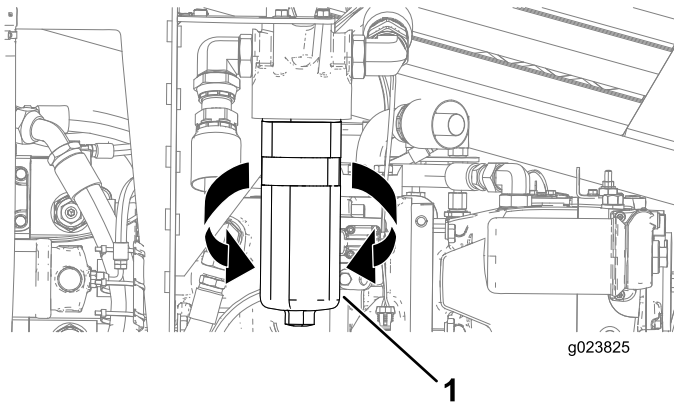

Figure 152
3. Align a drain pan or several rags under the charge filter (Figure 152).
4. Rotate the high-pressure hydraulic filter counterclockwise and remove the filter (Figure 152).
6. Align the high-pressure hydraulic filter to where it seats, and rotate it clockwise until the torque reaches 61 N-m (45 ft-lb) as shown in Figure 152.